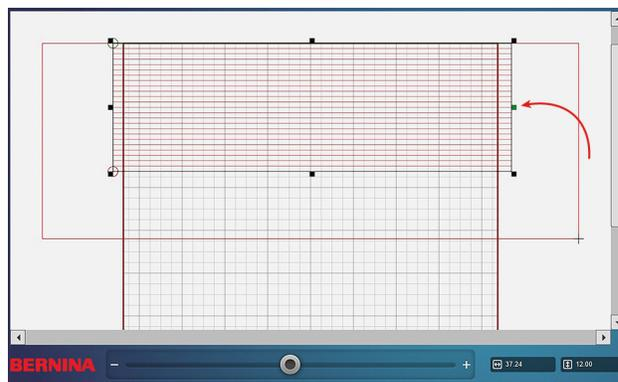

Fig. 69
7. With the design still selected, re-open Resize and de-select Maintain Ratio. Right-click or touch the center black node on the right side of the design to activate it and turn it green. Pull that node until the design stretches all the way across the grid and hangs over the right side a little (Fig. 69). It is best to have a little extra on the sides than not enough. Confirm with the green checkmark.